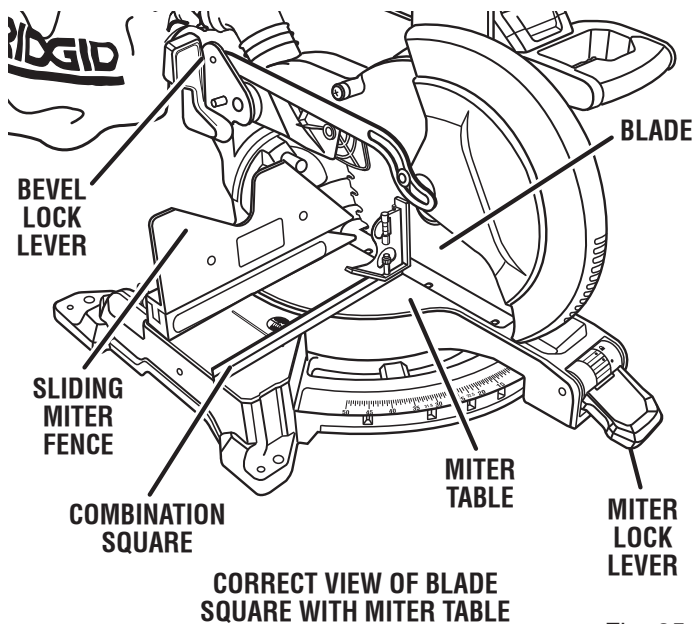

Fig. 25
- The edge of the square and the saw blade should be parallel as shown in figure 25.